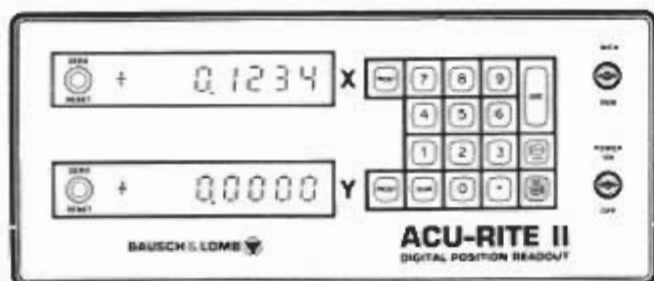

Figure 3-11. Console Status: Preset Entry, Incremental Mode
- To preset the incremental mode to the above value, push the plus or minus key, depending on whether the preset value is to be positive or negative (see Figure 3-11). The PRESET light will go out and the display will now indicate the preset machine coordinates.